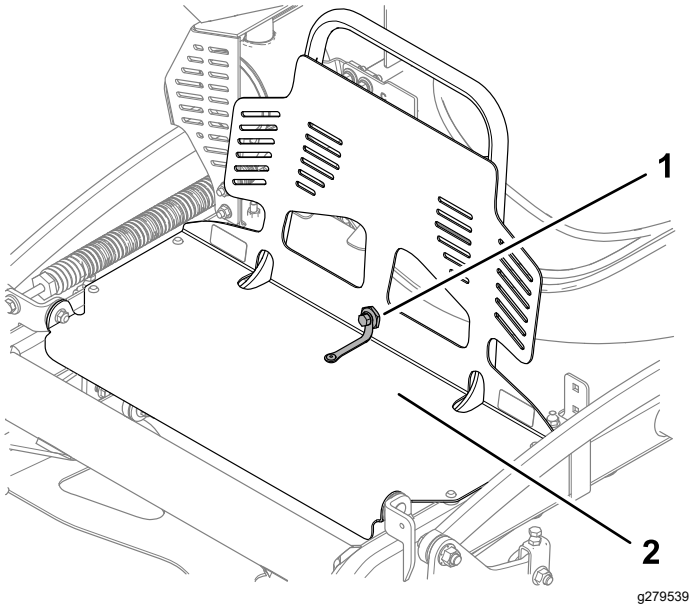

Figure 33
1. Remove the bolt and shoulder nut securing the engine guard to the guard extension (Figure 33).